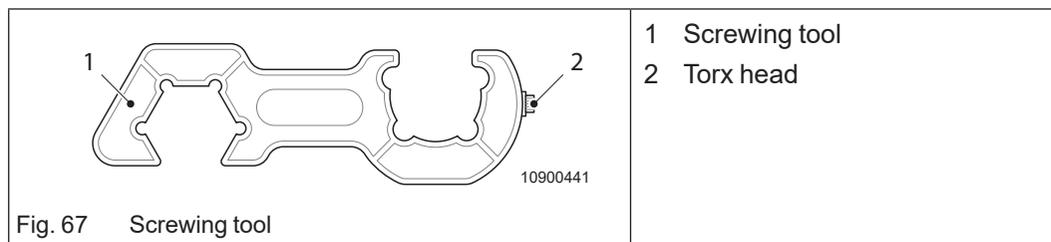

Fig. 67 Screwing tool
Use the screwing tool provided for screwing the high-pressure hose on and off (Fig. 67/1).
- ➔ If resetting is unsuccessful, use the Torx head (Fig. 67/2) of the screwing tool (Fig. 67/1) to support the rotation in a clockwise direction.